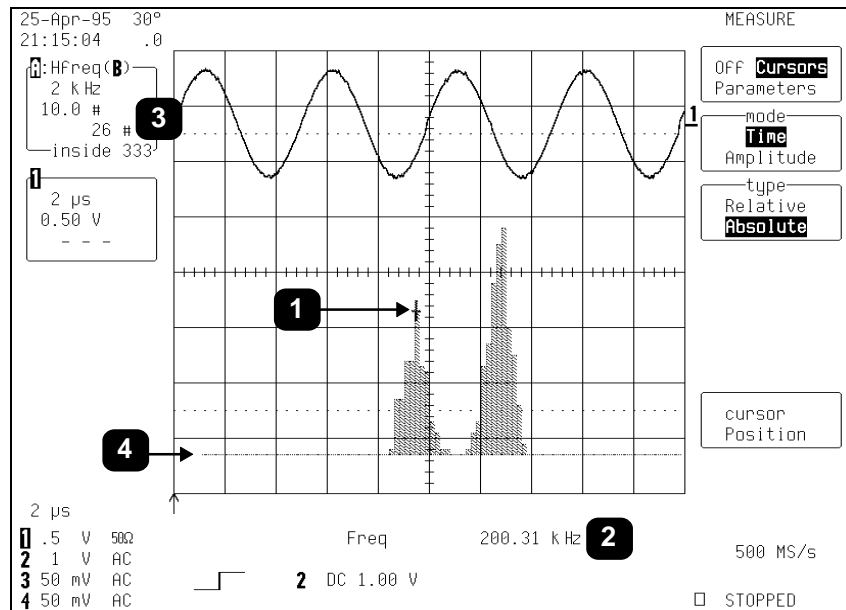

Figure 2.19
The scope's measurement cursors are useful for determining the value and population of selected bins. *Figure 2.19* shows the "Time" cursor (❶) positioned on a selected histogram bin. The value of the bin (❷) and the population of the bin (❸) are also shown.